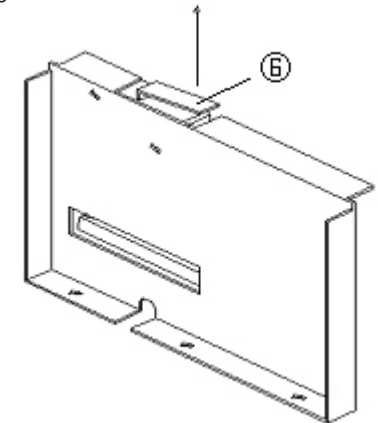

Fig.3.4
- **As shown in Fig.3.4,during the lamp replacement, when lamp house cover is taken out, the latch plate ⑥ would spring, thus the power supply is automatically cut off. However, for the sake of safety, it is preferable to disconnect the equipment before lamp replacement.**
- **Make sure that the latch plate ⑥ is pressed down and”clicked” is heard when the lamp house cover is laid back after lamp replacement.**